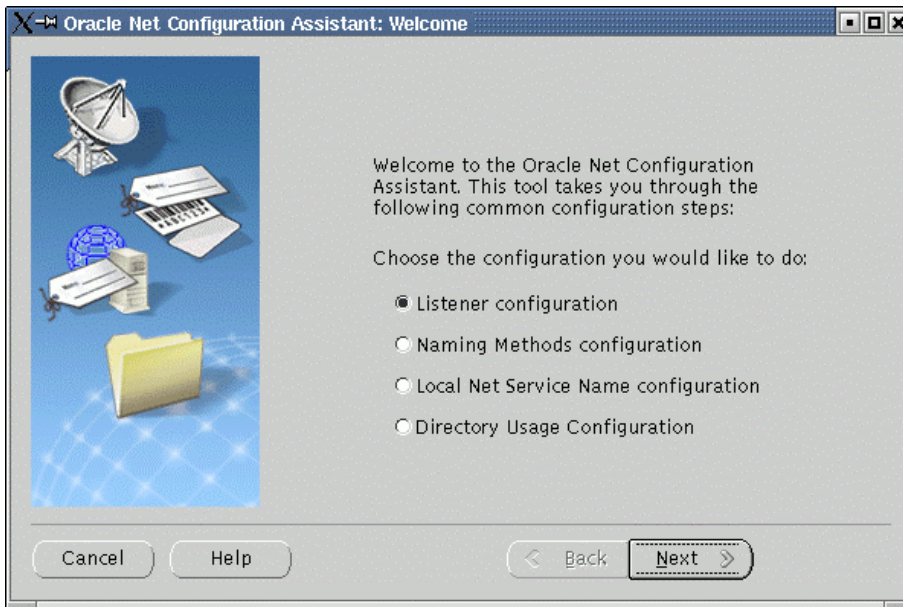

Figure 69. netca - Welcome screen
- The netca welcome screen is displayed (Figure 69). Select **Listener configuration** and click **Next** to continue.